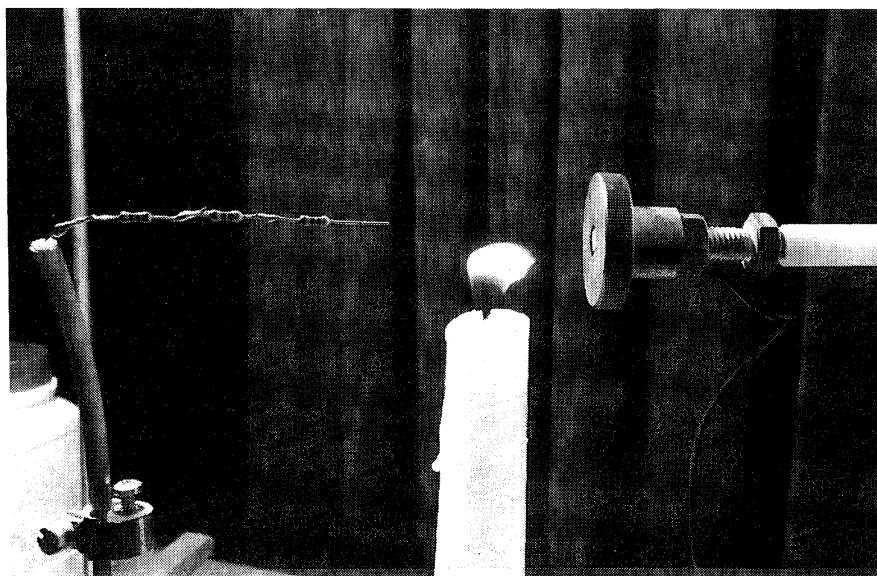

FIG. 14—CORONA WIND DEMONSTRATION. The flame will deflect toward the ground plate. Note the black ground wire attached near the screw threads.
- With a high-voltage emitter pointed at a ground plate (used to attract ions), with a burning candle placed in between them (see Fig. 14), you'll see the candle flame deflect toward the metal plate.